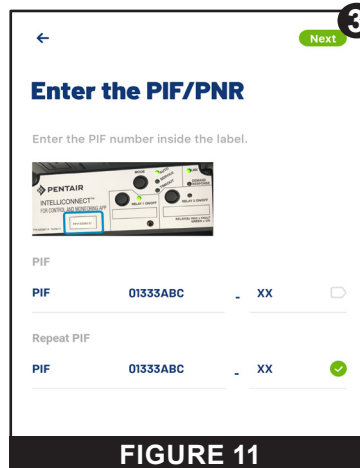

FIGURE 11
- The Enter the PIF/PNR screen will display (FIGURE 11). Enter the number twice. A green check mark will display if entered correctly.
- Press NEXT (3) in the top-right corner of the screen.